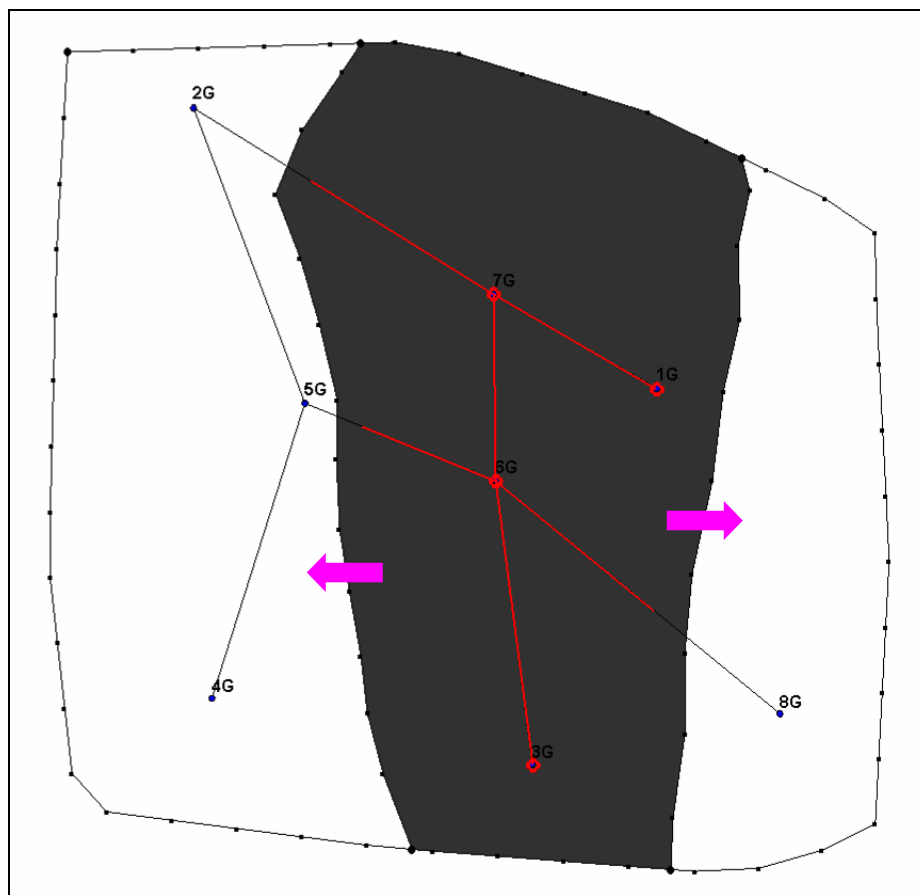

Figure 6. Polygons to be deleted.
2. Delete the two polygons on the left and right of the model identified by the arrows in Figure 6 (click inside each polygon to select it and hit the delete key). Solids will only be created where a polygon exists.